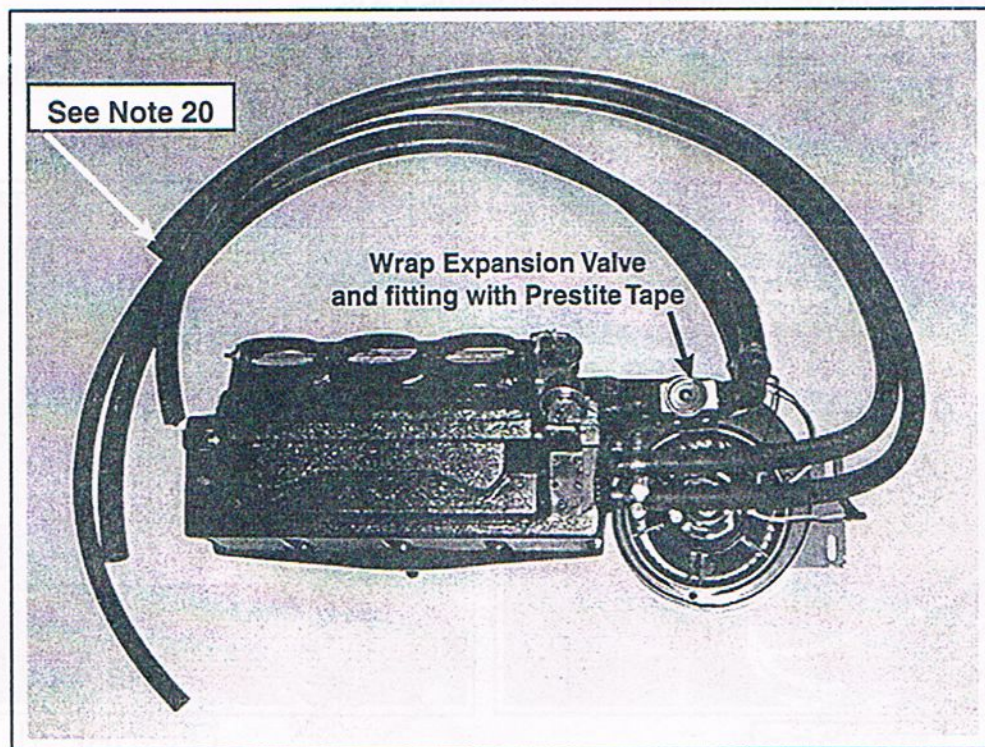

FIGURE 10
20. Secure 5/8" heater hose to the heater fittings on the coil. Identify the opposite end of the bottom heater hose so it can be secured to the outlet or intake manifold at a later time. (FIGURE 10)